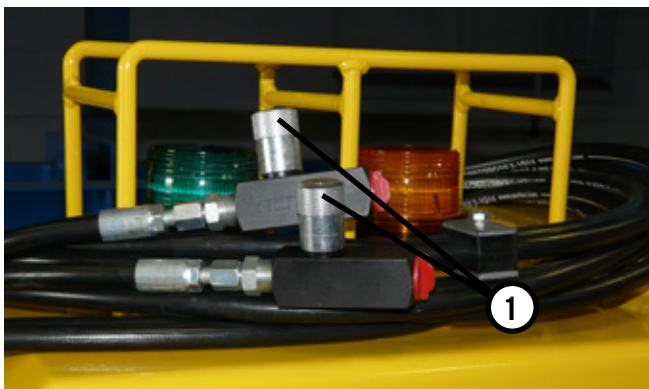

Fig. 1-1
1. There are flow control valves (Fig. 1-1, 1) installed on the hose fittings. There is a flow diagram embossed on the flow control valve which shows the direction of flow.
The flow control valves (Fig. 1-1, 1) on the hydraulic fittings are “one way open – other way restricted” type. They can be adjusted to increase or decrease the rotation speed.